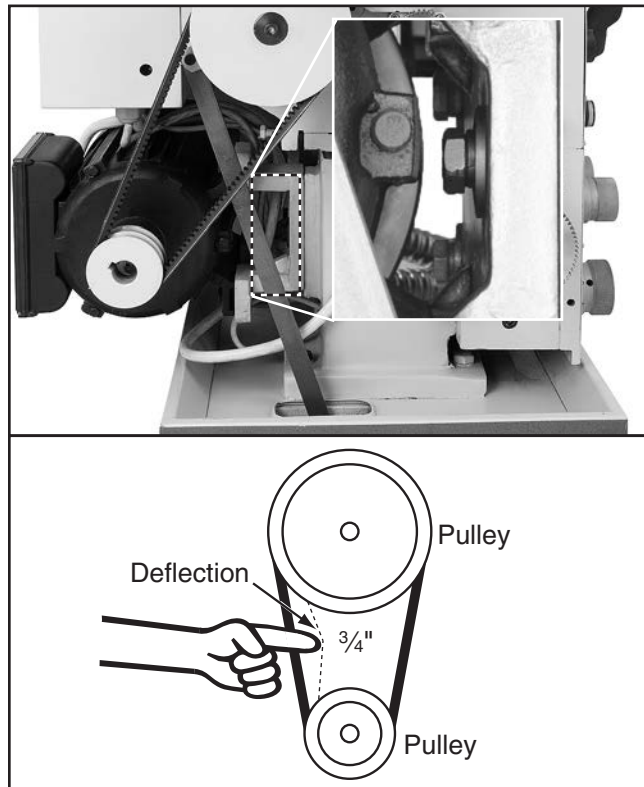

Figure 140. Location of motor mount bolts.
3. Adjust hex nuts on motor mount bolts (see **Figure 140**) until there is approximately $\frac{3}{4}$ " deflection in each V-belt when it is pushed with moderate pressure.
3. Loosen motor mount bolts (see **Figure 140**), slide motor up, and remove V-belts.